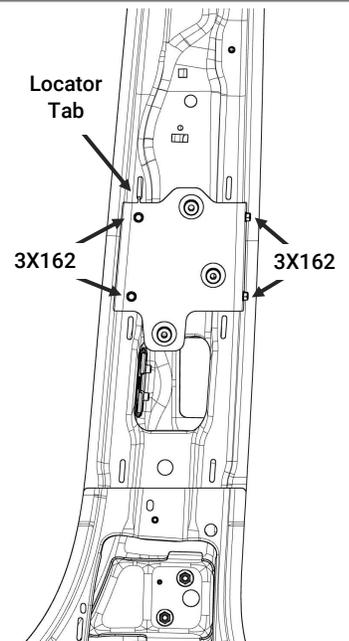

Figure 1
- Place the Passenger B-pillar Bracket [3PAK572110] against the vehicle B-pillar with the locator tab in the bottom of the slot indicated in Figure 1. Ensure that the seatbelt is underneath the bracket.
- Secure the B-pillar bracket in place with a 3/8" socket and (4) self drilling screws [3X162]. The holes can be pre-drilled with a 3/16" drill bit if necessary.
- Repeat on the driver side using the Driver B-pillar Bracket [3PAK572111] and (4) self drilling screws [3X162]. There are (2) extra self drilling screws for the scenario where one of the screws dulls before drilling through the B-pillar.